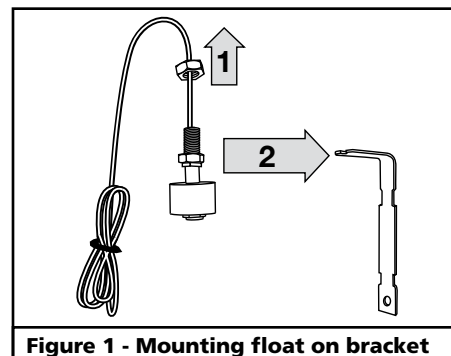

Figure 1 - Mounting float on bracket
3. Slide the nut out of the way on the float switch wire (Fig. 1).
4. Slide the float switch into the mounting bracket (Fig. 1).